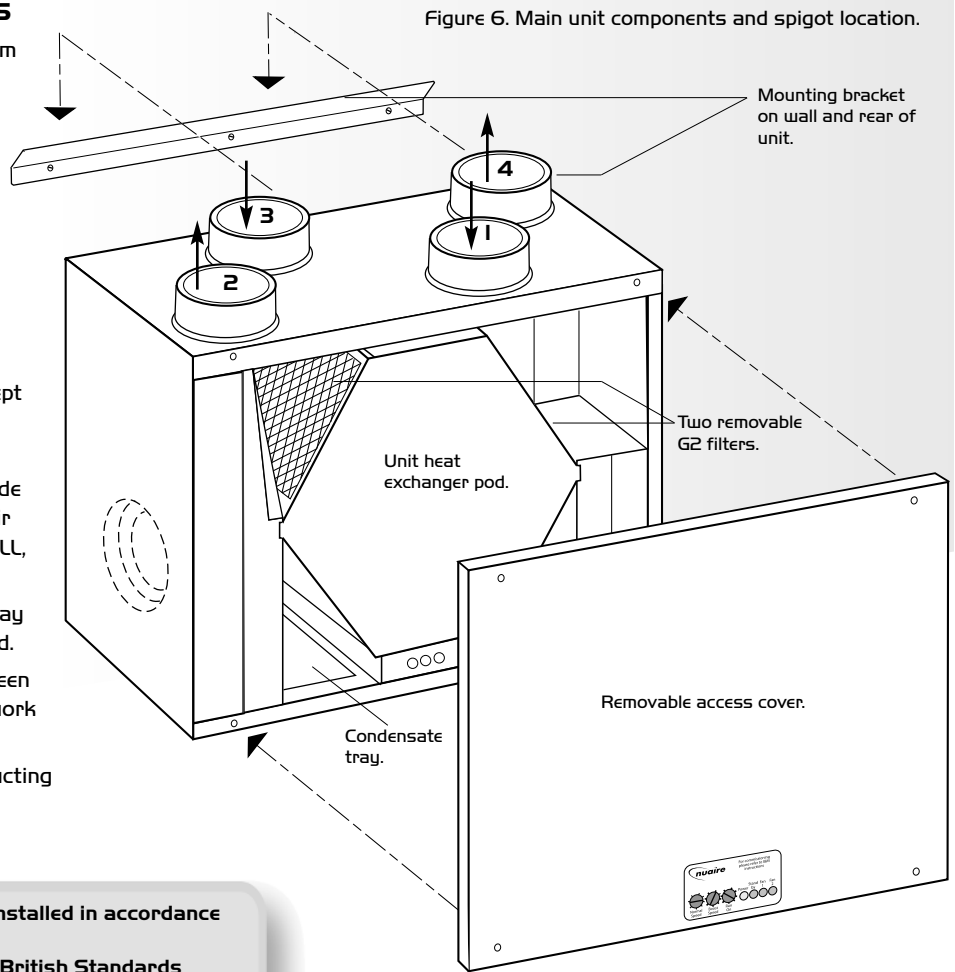

Figure 6. Main unit components and spigot location.
**Spigot Location and Ducting references (see figure 6)**